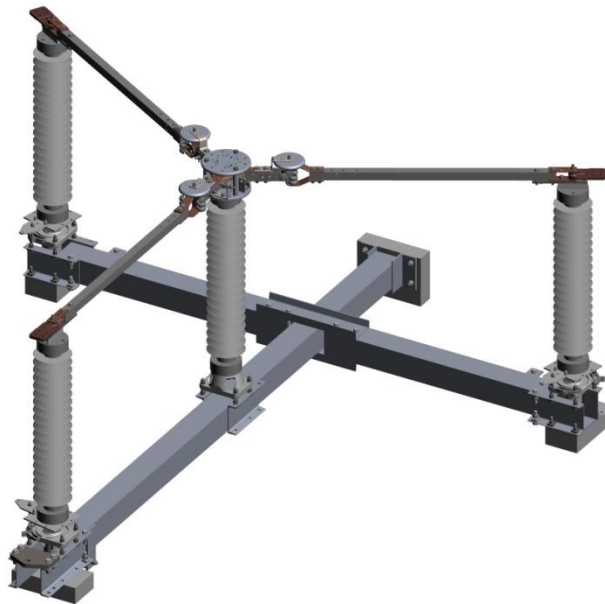

Figure 7: Closed Switch
- 5) Close the switch blades. See Figure 7.